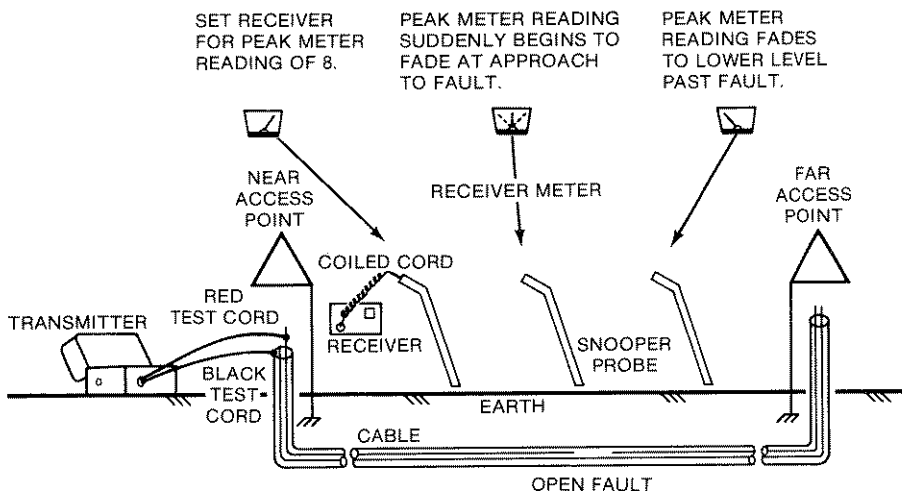

Figure 3-10.
5. Plug the jack end of the red/black test cord into the RED/BLACK TEST CORD jack receptacle on the transmitter (see Figure 3-10).